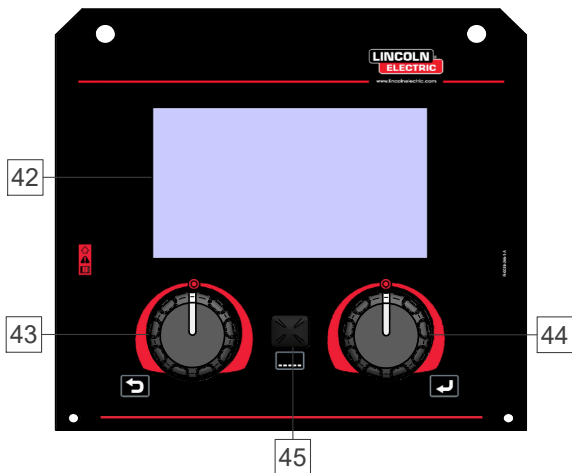

Figure 8
- Advanced view (Figure 8)
- Select one of the view (Standard – Figure 7 or Advanced – Figure 8).